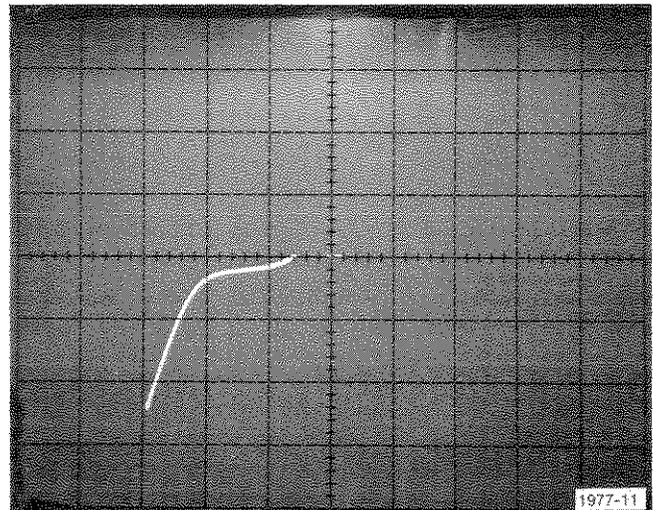

Fig. A-11. Display of output current source.
e. Check the output current source on the vertical axis of the display as shown in Fig. A-11.